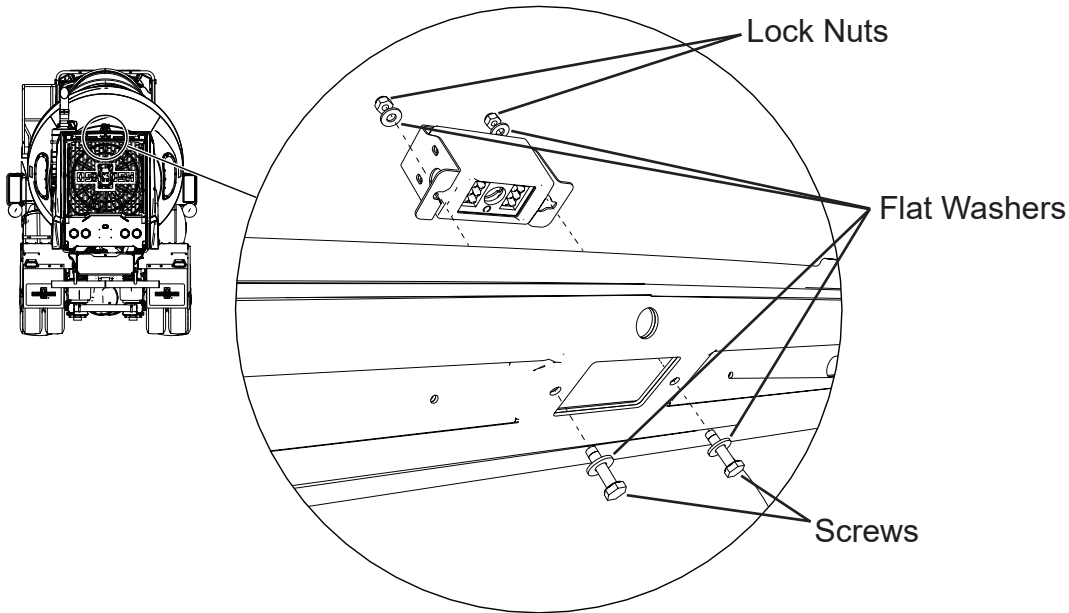

Figure 3
6. Mount the camera and bracket to the hood hatch with screws, flat washers and lock nuts removed in Step 4, see Figure 3. Final tighten mounting hardware to 65 in. lbs.